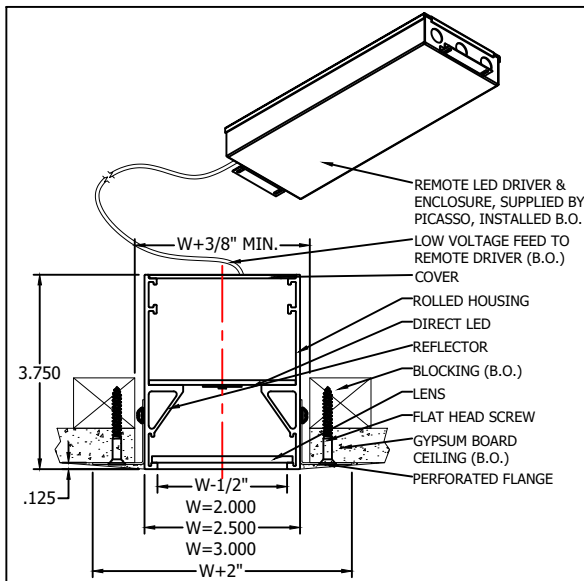

Fig. 1 Installed section details.
1. Anello fixtures comes with width (W) 2" or 2-1/2" or 3". Standard sizes are 3', 4', 5', and 6' nominal diameter. These fixtures come as fully assembled ring. Custom sizes larger 6' come in the segments and have to be assembled before installation. Fixture with (3) or more segments might be assembled within the ceiling if condition permitted. Custom Gypsum board cutout width should be 3/8" larger than fixture width (see Fig. 1 for details).